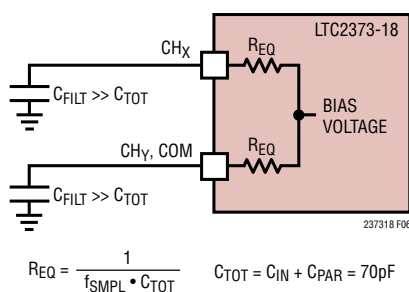

Figure 6. Equivalent Circuit for the MUX Analog Inputs of the LTC2373-18 at 1MSPS
**Fully Averaged:** Consider the case where MUXOUT+/- is directly wired to ADCIN+/-. If the coupling filter's capacitors (CFILT) at the MUX analog inputs are much larger than the sum of the ADC's sample capacitors (50pF) and the MUX's output summing node capacitances (20pF), then the sampling glitch is greatly attenuated. The driving amplifier effectively only sees the average sampling current, which is quite small. At 1MSPS, the equivalent input resistance is approximately 14k (as shown in Figure 6), a benign resistive load for most precision amplifiers. However, resistive voltage division will occur between the coupling filter's DC resistance and MUX's equivalent (switched-capacitor) input resistance, thus producing a gain error.